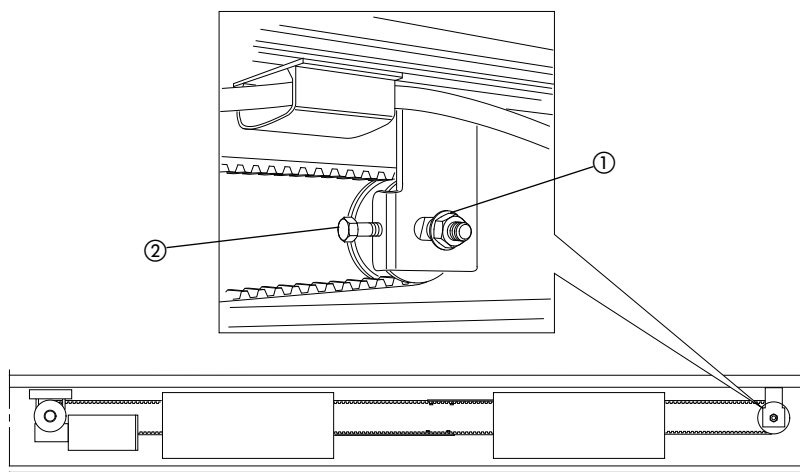

fig. 33
- Loosen the nut (fig. 33 ref. ①).
- Screw the bolt (fig. 33 ref. ②) to apply tension to the belt, or unscrew it to loosen the belt.